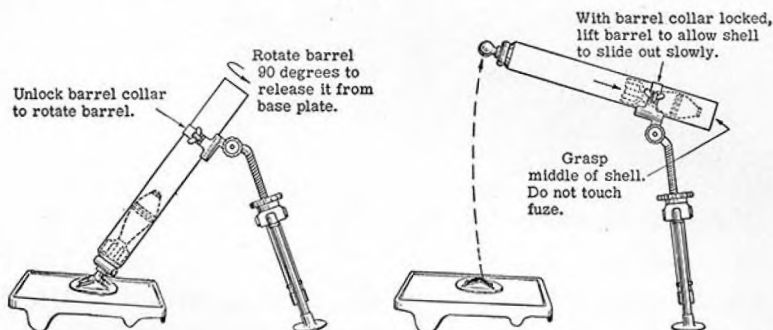

Figure 95.—Unloading Model 99 (1939) 81-mm mortar.
Before proceeding further, first determine if the shell has become lodged in the barrel, somewhere short of the firing pin. By striking the side of the barrel in several places with a timber, the shell may be dislodged. If, however, this fails, then proceed to unload (fig. 95).
(4) *To unload.*—If there is a misfire, wait at least 1 minute before attempting to unload the weapon. Then try to find whether the shell has become lodged in the barrel somewhere short of the firing pin. Use a piece of timber, and strike the barrel at several places. If that fails, proceed to unload. (See fig. 95, p. 156, for the method of unloading.)